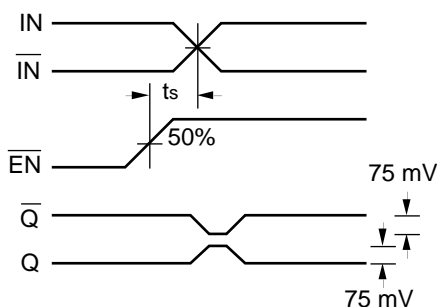

Figure 1. Set-up Time
- The set-up time is the minimum time that EN must be asserted prior to the next transition of IN/IN to prevent an output response greater than ±75mV to that IN/IN transition (see Figure 1).